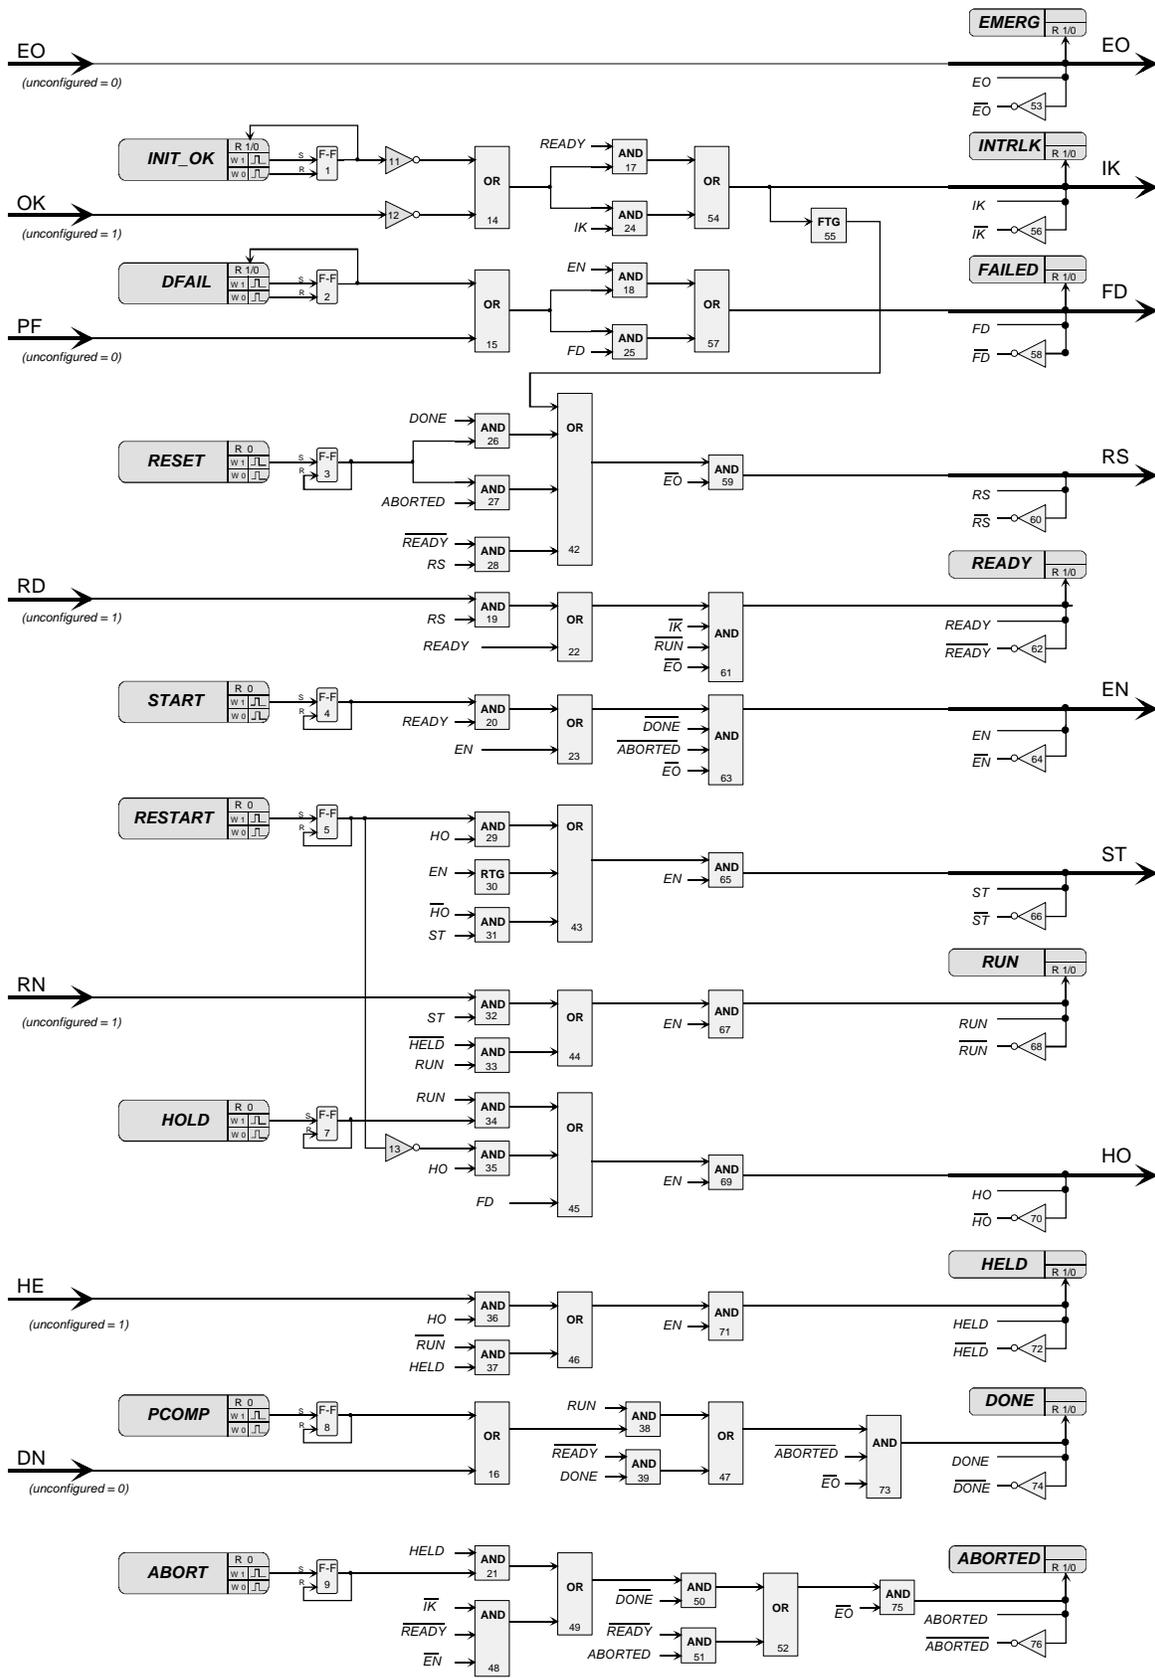

Figure 3-1
The logic performed by the **PCOM** block is detailed in Boolean form in Figure 3-1. Network communication can be either Modbus or LIL (Local Instrument Link). Details are listed in the Network Communications section. The LOOP # configured in the ODC or ODS function block for the loop determines the location of the status word and the status coils in the Modbus mapping. Communication states are represented in Figure 3-1, on the next page, using the symbols shown below. Modbus states are mapped in coils and LIL states mapped into two 16-bit status word as shown below. Three global channels are used to send out the two status words and an integer value from 1-7 that represents the status of the PCOM block: 1=ABORTED, 2=DONE, 3=HELD, 4=RUN, 5=INTRLK, 6=READY, 7=EMER OR. The location of the first channel is configured using the LIL CHAN parameter, represented by channel z in the LIL mapping tables.
Each communication state is read as a 1 or 0. Using Modbus, a write of a 1 (W1) or a 0 (W0) will affect the communication state as defined by the associated logic in Figure 3-1. The W1 or W0 is equivalent to a Mask ON or a Mask OFF using LIL commands. All unconfigured inputs will be treated as low (0) except OK, RD, RN and HE which will be treated as high (1). Three of the output states, EO (“EMERG”), IK (“FAILED”) can be configured for priorities 0-5. This will affect the flashing, etc. as previously described for other controller status conditions. These states also have unacknowledged bits as detailed in status word 2. Conditions that require acknowledging can be acknowledged by either using the local faceplate ACK button or by writing to the individual not acknowledged bit or the Not Ack’d PCOM bit.